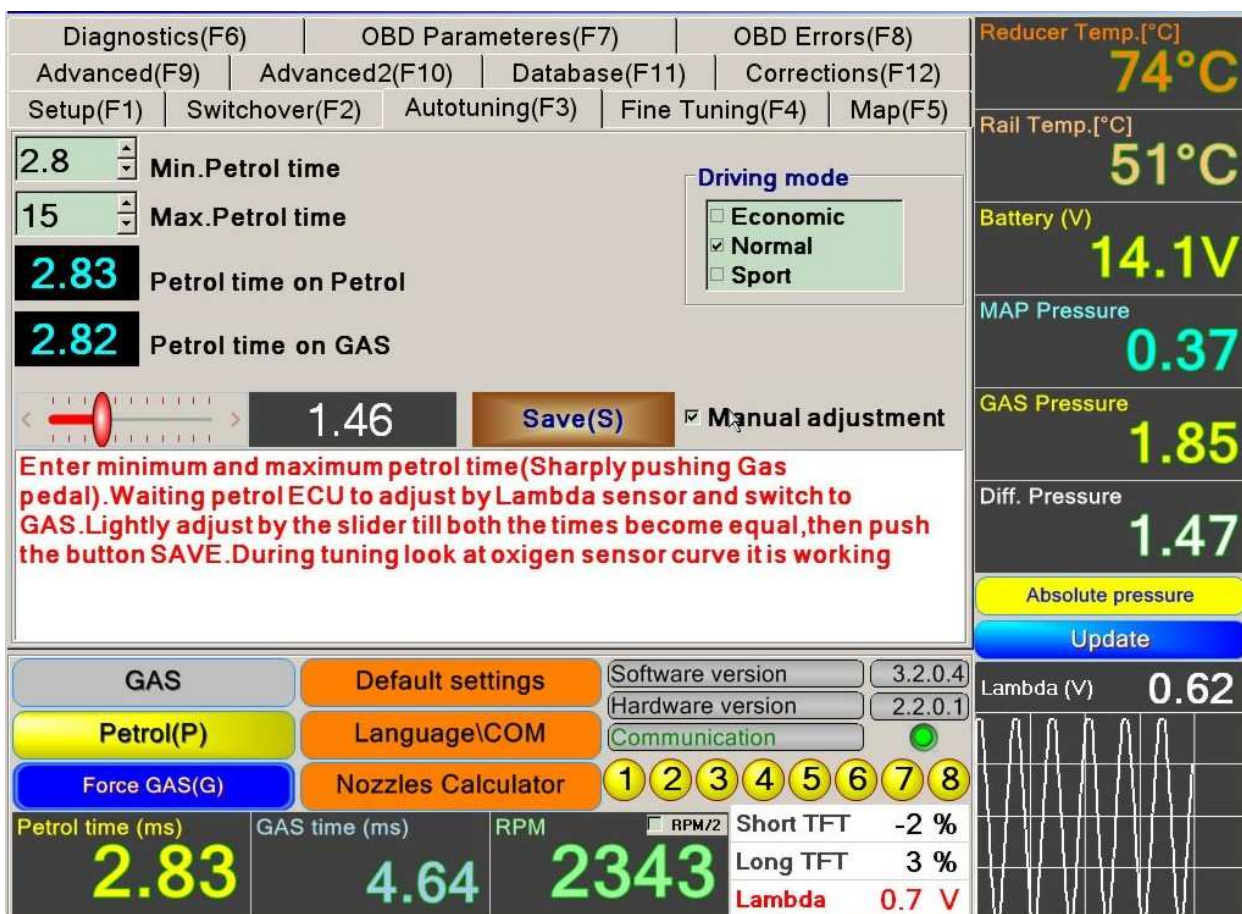
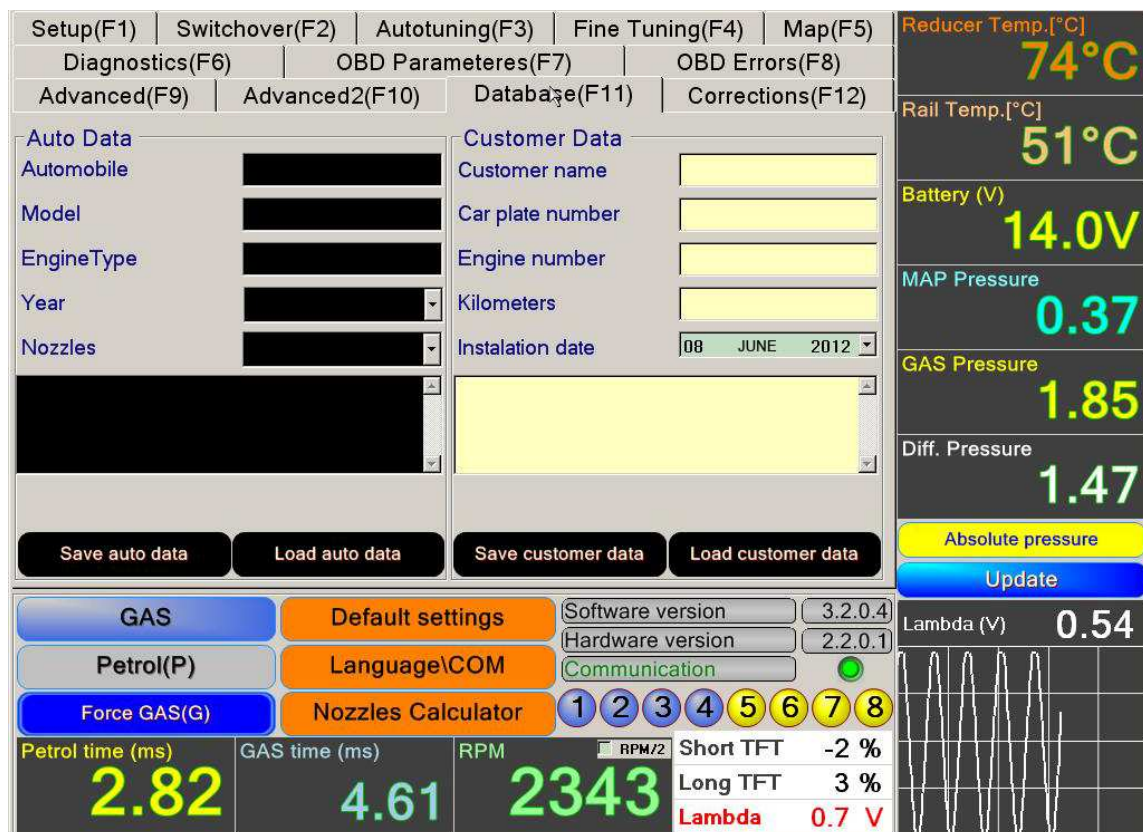

FIG.6
FIG.9
10. MANUAL ADJUSTMENT (F3)– FIG.6
2. In the bottom square is shown the petrol injection time when the engine runs on LPG. You have to reach both values almost equal – it could be done by slider - changing the current coefficient, push the “SAVE” button to record into the ECU. For more precise adjustment you can do it by using the coefficients in the menu “Fine tuning” /FIG.6/ when the car is moving on different road types, to ensure more loads for the engine and speeds. In the menu you have push button “calculate map”. This is the connection between the linear adjustment with coefficients and the 3-size map, which is table of coefficients, depending from petrol time and RPM. This button gives you possibility to switch from easy to more detailed adjustment. Driving the car with constant RPM and gas pedal (fixed TPS), you see the blue line on the petrol inj. time. You have to switch from petrol to LPG and move with arrows up or down current coefficient till the valve, when the petrol inj. time is equal on petrol and LPG running. The same procedure for different petrol times will give you more precise adjustment. By arrows of the neighbour coefficients you have to adjust them so, the red curve is slight falling down to the high /FIG.9/.
Note: If there are problems with coefficient adjustment you have to switch off the check box "Adaptation in open loop" (Fig.6)
14. MENU “DATA BASE” (F11) – FIG.9